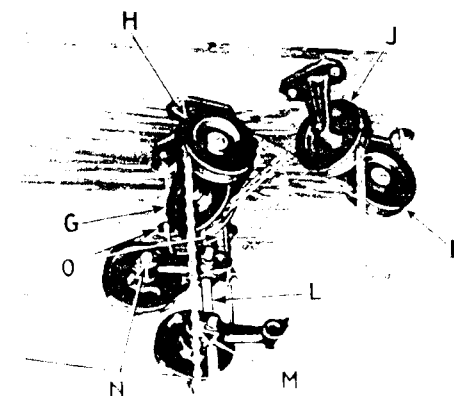

Fig. 3. Underside of Table, Showing Location of Idler and Treadle Chain Guides for Individual SINGER Electric Motor Operation of Class 71+ Machines
If the machine is to be driven by a pulley mounted on either a floor or table shaft to the rear of the idler bracket complete (L), the idlers and idler arm should be assembled with the pulleys mounted in the two holes of the arm farthest from the vertical rod hole, as shown at N, Fig. 3. Should it be necessary to drive the machine from a shaft lying between the rear of the machine and the front of the table, the two pulleys should be assembled with the pulleys mounted in the holes of the arms nearest to the vertical rod hole, as shown at M, Fig. 3.
The foregoing instructions should be followed with the exception that the belt idlers (L, Fig. 3) and arms must be assem-
bled as illustrated in Fig. 3. The belt should be applied around the pulley of motor, around the idlers, up through the holes (O, Fig. 3) in the table and around the machine pulley as instructed on page 19.